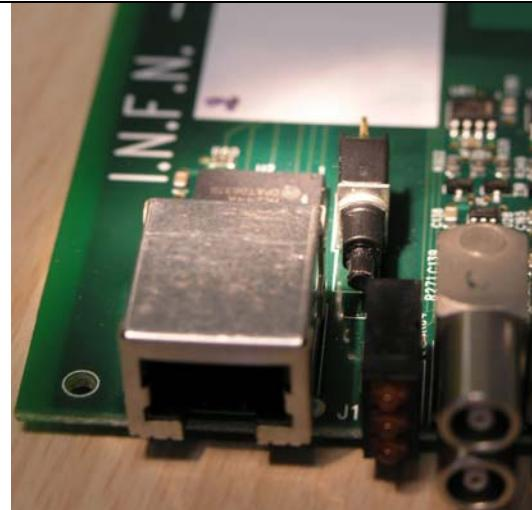

Figure 10: Reset push button
2.1.o: Push button Reset (figure 10)